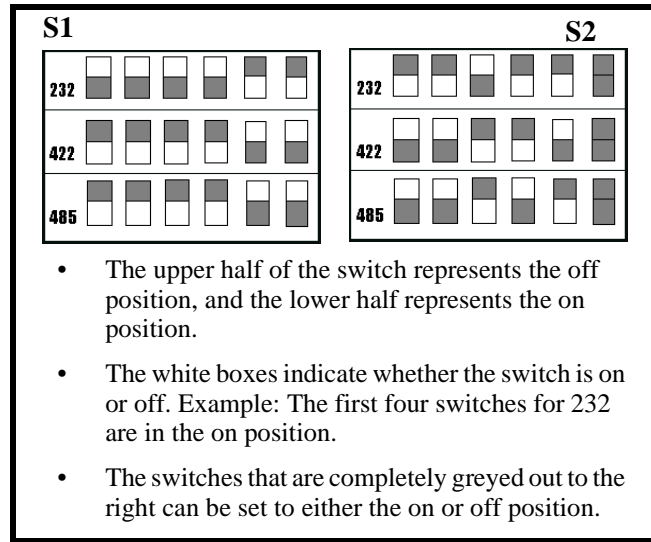

Figure 2-2 Dip Switch Settings
Figure 2-2 displays the settings for the COM2 port. A similar diagram is located on the back of the PowerStation next to the DIP switch cutout.
1. Choose the appropriate DIP switch settings from the diagram displayed on the back of the PowerStation or from *Figure 2-2*.